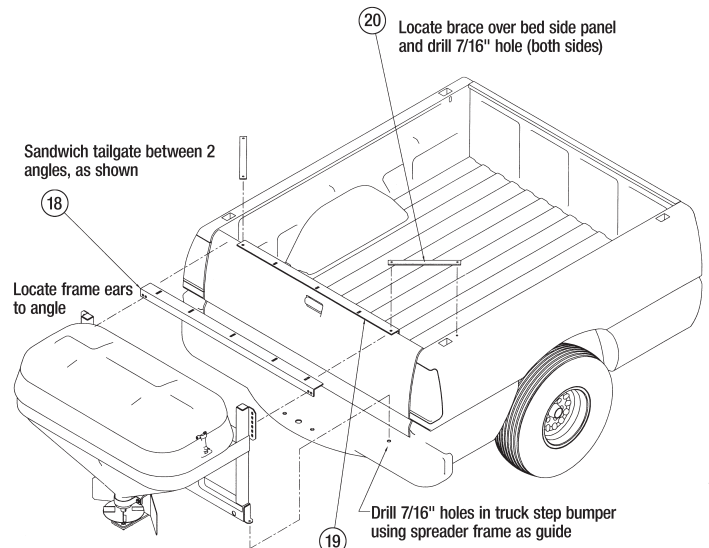

Fig. 1 Mounting
2. Assemble Angles (18, 19) and Braces (20) as shown in Fig.1 Use 3/8" carriage bolts, flat washers and nuts. Do not tighten fasteners at this moment.
4. Position braces (20) on top of side rails. Using holes in braces as guides mark and drill holes for 3/8" screws.